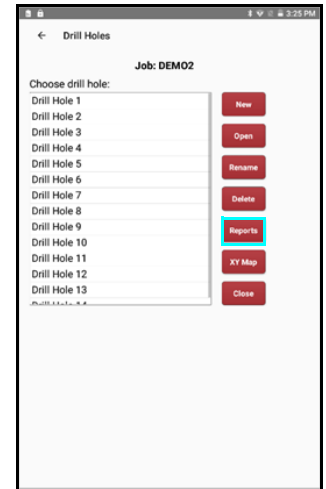

Figure 53
1. Open a Job to access the Drill Hole menu and tap [Reports] (Figure 53).